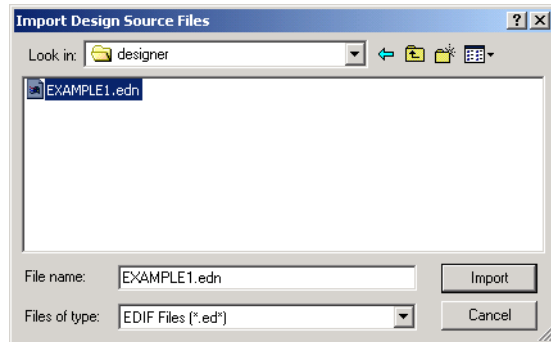

Figure 2-5. Add Source File Dialog Box
2. **Click the *Add* button.** The Add Source Files dialog appears, as shown in Figure 2-5.